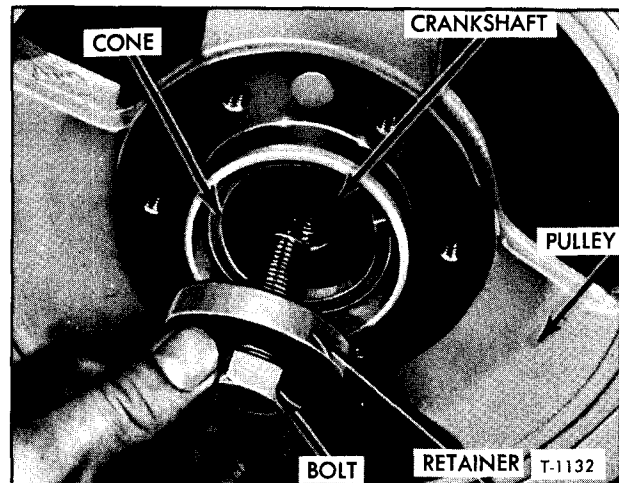

Figure 15—Crankshaft Hub Retaining Parts (Typical)
3. Remove installer, then referring to figure 15, locate cone at hub on 478M engines. Install retaining washer and bolt. When phosphate coated bolt is used, tighten bolt to 180-200 foot-pounds torque. If cadmium plated bolt is used, correct torque is 240 to 260 foot-pounds.